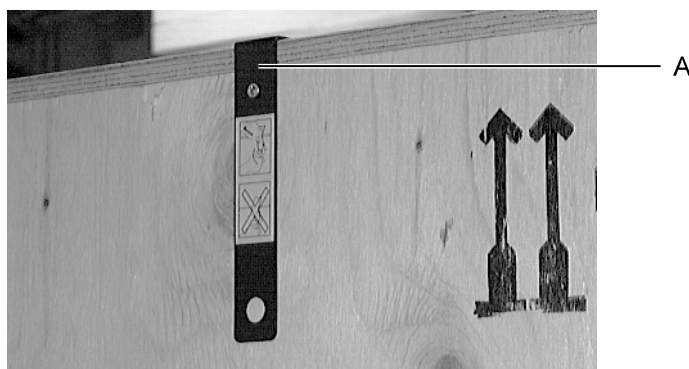

Figure 27: Location of clip removal tool
3. Unscrew and remove the clip removal tool (see Figure 27, A) from the rigid transport packaging.